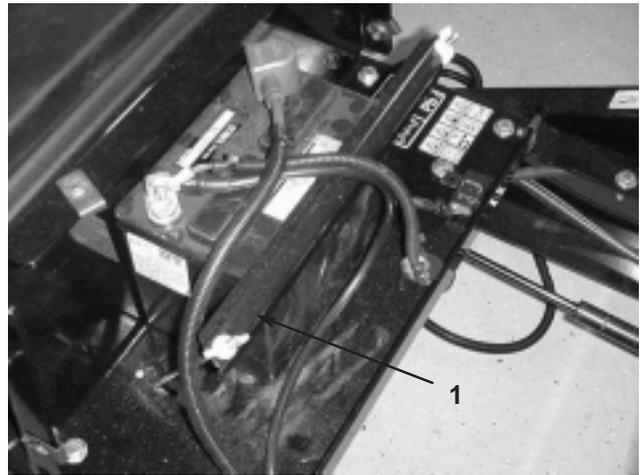

Figure 2
2. Remove the wing nuts, rods and battery holddown securing battery to blower chassis (Fig. 2).
- Install the battery into the chassis (Fig. 2).
- Secure the battery in the chassis with the battery holddown, rods, and wing nuts (Fig. 2).
- Using the bolt and wing nut supplied with the battery, connect the positive (red) cable to the positive (+) battery post (Fig. 2). Slide the rubber cover over the battery post.
- Using the bolt and wing nut supplied with the battery, connect the negative (black) cable to the negative (-) battery post (Fig. 2).